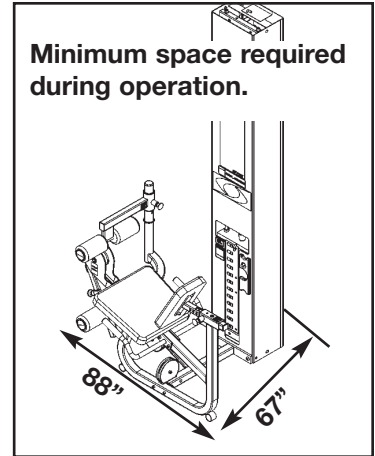

Figure 2
- E. For Modular/Tandem configurations, allow a minimum of 88" x 67". See Figure 2.